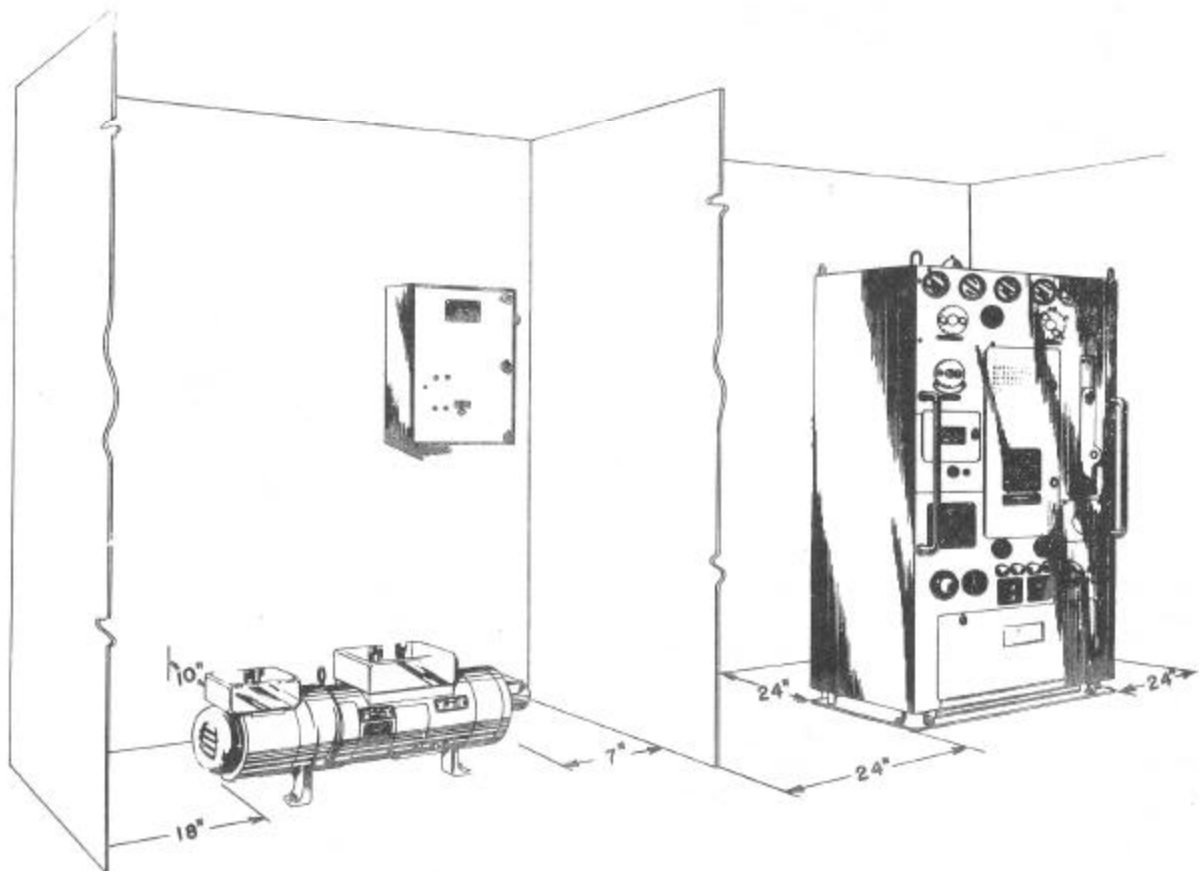

Figure 3-1 TCK Installation with Motor Generator Set
(1) The transmitter, rectifier and motor-generator liberate a considerable amount of heat in operation; hence adequate ventilation should be afforded to prevent excessive rise in component temperature and to prevent operator fatigue.
(2) Sufficient illumination to permit adequate visibility of all panel controls and meters must be provided. Illumination of the sides and rear of the transmitter and rectifier units is desirable in case of service adjustments.
(3) If permissible, clearance of  $1\frac{1}{2}$  to 2 feet should be left on each side of the major units to permit ease in servicing without the necessity of removing the unit from its mounted position. Suggested clearances are shown in Figs. 3-1 and 3-2.
(4) It is desirable to locate the motor-generator unit in a compartment or room separated by a bulk head from the transmitter. This reduces mechanical noise interference when operating the transmitter with a local microphone.
(5) The rectifier unit or motor-generator should be located convenient to the power source. The source must be capable of supplying the voltage and currents shown in paragraph 10g of Section I, with good regulation.
(6) The transmitter should be located close enough to the antenna so that the interconnecting transmission line does not have to exceed twenty feet. Avoid any sharp bends in the transmission line and use ceramic insulators where it penetrates bulkheads.
**d. Transmitter Unit Installation.**—As suggested in Figs. 3-1 and 3-2, a clearance of 18 to 24 inches should be provided on all sides of the transmitter so that access may be made to the rear and sides without dismantling the transmitter from its installed position. This unit is mounted to the deck by 8 bolts which pass through the base plate. The bolts should be long enough to pass through both the base plate and the deck. Refer to Fig. 3-19 for clearances and the drilling plan for the base of the unit.
**e. Motor-Generator Installation.**—It is advisable, as mentioned previously, to locate the motor-generator unit in a compartment separated from the transmitter by a bulkhead so as to reduce interference during phone operation. Adequate clearance for easy servicing of the set and the magnetic controller should be provided. Fig. 3-1 shows a good installation with suggested clearances.
**g. Magnetic Controller Installation.**—This unit is used with each motor-generator power supply and is mounted on the bulkhead near the motor-generator unit as shown in Fig. 3-1. Sufficient clearance should be allowed so that the door may be swung open for service adjustments. It is essential that the reset button on the door be readily accessible at all times.